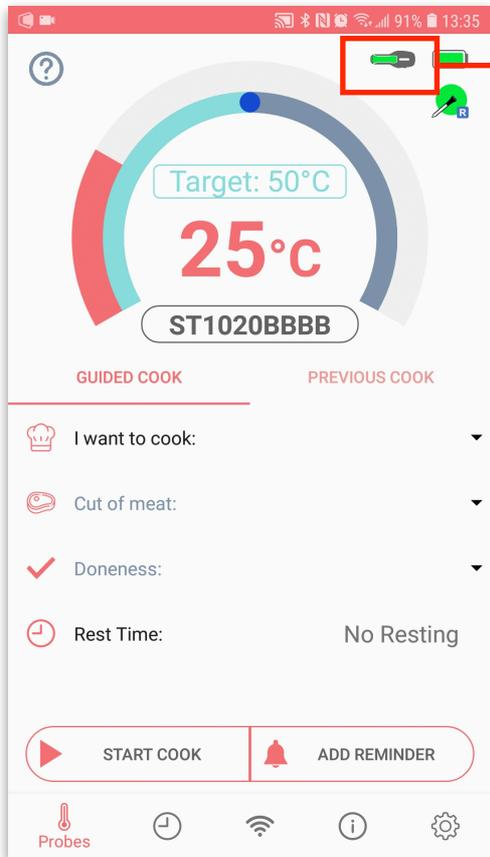

Figure 25. Cook Set Up Page
1. Click the ECPIN in the probe list page (Figure 24), you can see the cook set up page with a repeater icon (Figure 25)